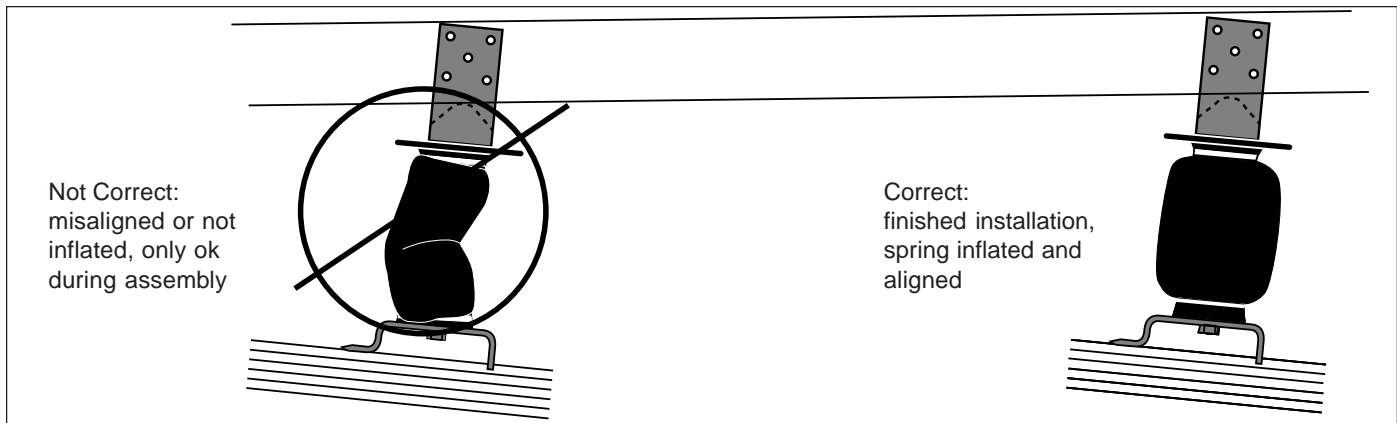

Figure 9
- VERY IMPORTANT:** With the bottom still loose, inflate the sleeve to approximately 10 p.s.i. By using the slotted adjustment, center the sleeve so that it is in line with the upper and lower brackets and that there is a symmetrical cushion of air around the lower piston of the sleeve to prevent side load wear (Figure 9). Sleeve diameter grows to 4.6” at maximum inflation. Check to be sure there is sufficient clearance around the sleeve when it is inflated. Tighten the lower sleeve mounting bolt to 10 ft.lbs. **DO NOT OVERTIGHTEN.**
4. Should it become necessary to raise the vehicle by the frame, make sure the system is at minimum pressure (5 p.s.i.) to reduce the tension on suspension/brake components. Check to see that the air spring rolls back down over the bottom piston after the vehicle is lowered (Figure 9). If sleeve fails to roll back down over the piston, add air pressure until sleeve "pops" back over piston (do not exceed 100 p.s.i.).